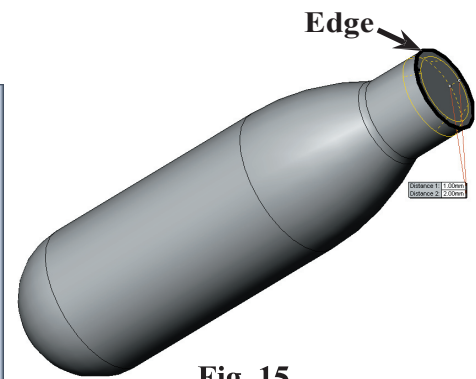

Fig. 15
Step 4. Click **Zoom to Fit**  (F) on the View toolbar.
Step 1. Use the left arrow on the key board to rotate view as shown in **Fig. 15**.
click the **corner edge**, **Fig. 15** and